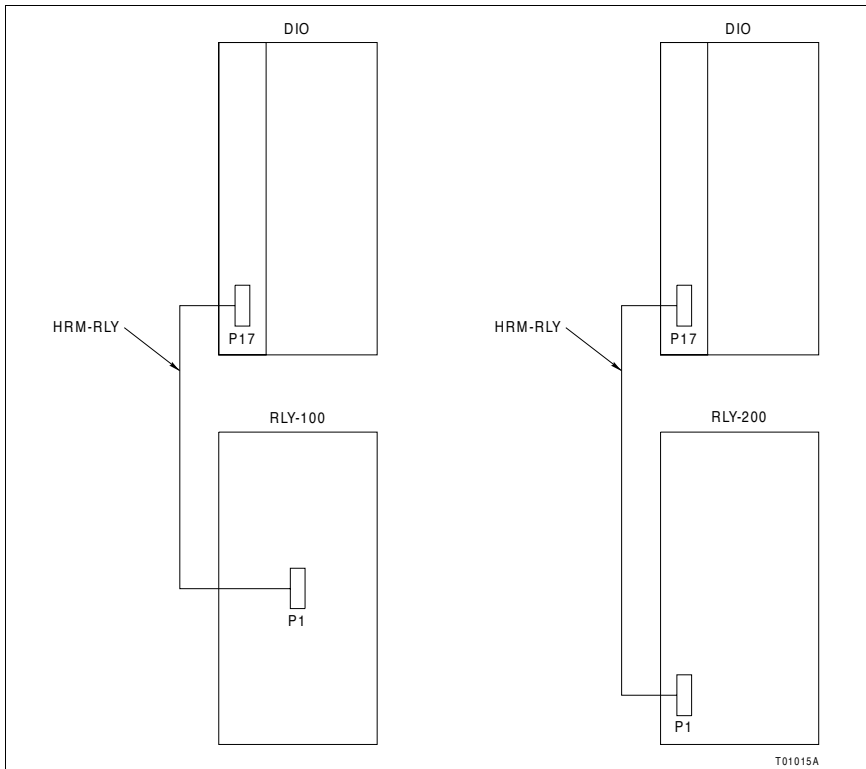

Figure PR18-2. DIO Block to RLY Block Cable Connection
- Make the necessary cable connections as shown in Figure PR18-2. This figure shows the cabling required to connect an RLY-100 or RLY-200 block to the DIO block.